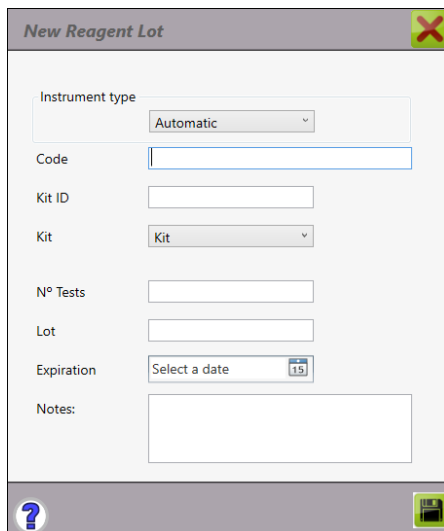

Figure 66. Automatic instrument reagents registration window.
- Automatic instrument: select the type of instrument “Automatic”, place the cursor on the “Code” field and perform the reading of the QR bar code (Figure 66).